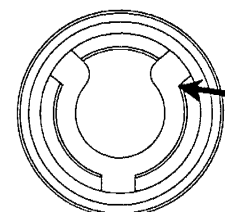
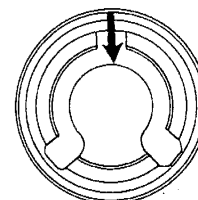

Fig. 4
Fig. 6
1. Release the spring by pushing in on each leg in turn with tweezers, Figs. 4 and 5. Slide the head of the spring out, Fig. 6. Set spring aside.